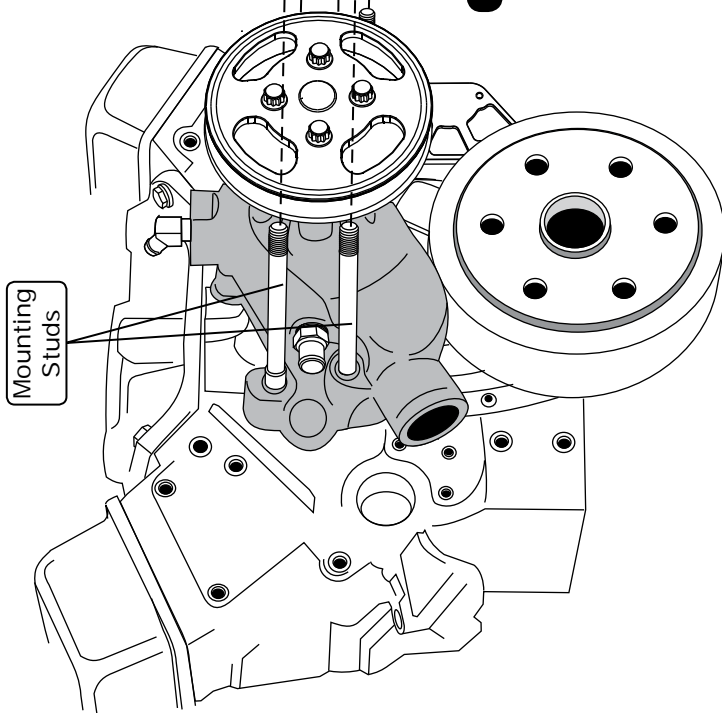

Figure 5
3. Secure the alternator to the power steering bracket using a 3/8-24 x 4" 12-Pt SS bolt, a 3/8-24 SS nyloc nut and a 3/8" AN SS washer (See Figure 5, Page 9). Torque to 24-28 lb ft.